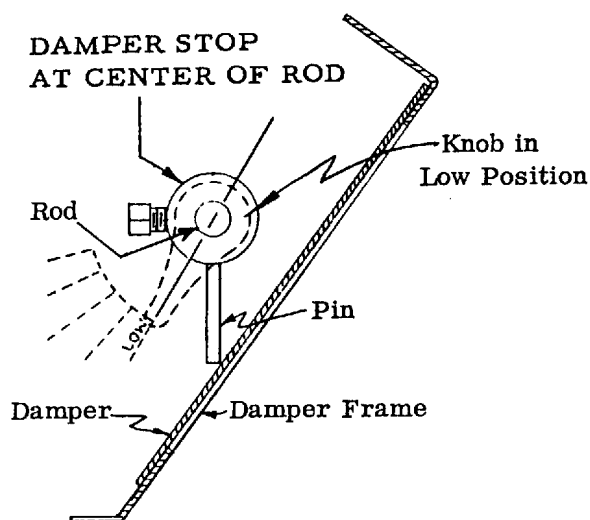

FIG. 2
2. Place the pointer of the control knob at the low position (Fig. 2), with damper fully closed, push the pin on the damper stop (in center of rod) down until it hits the damper, tighten set screw securely.
1. Place bag in position on buck, Fig. 1. Center top edge of Pants Topper bag with center of waist clamp (A). Install retainer (B) over drawstring sheath (X), Fig. 2 or 2A. Tighten three sheet metal screws. Open zipper (C) Fig. 1.